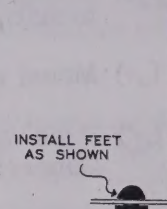

Figure 8
- () Prepare the cabinet by installing the handle with 10-24 screws and by pushing the rubber feet into the four holes in the bottom. See Figure 8.